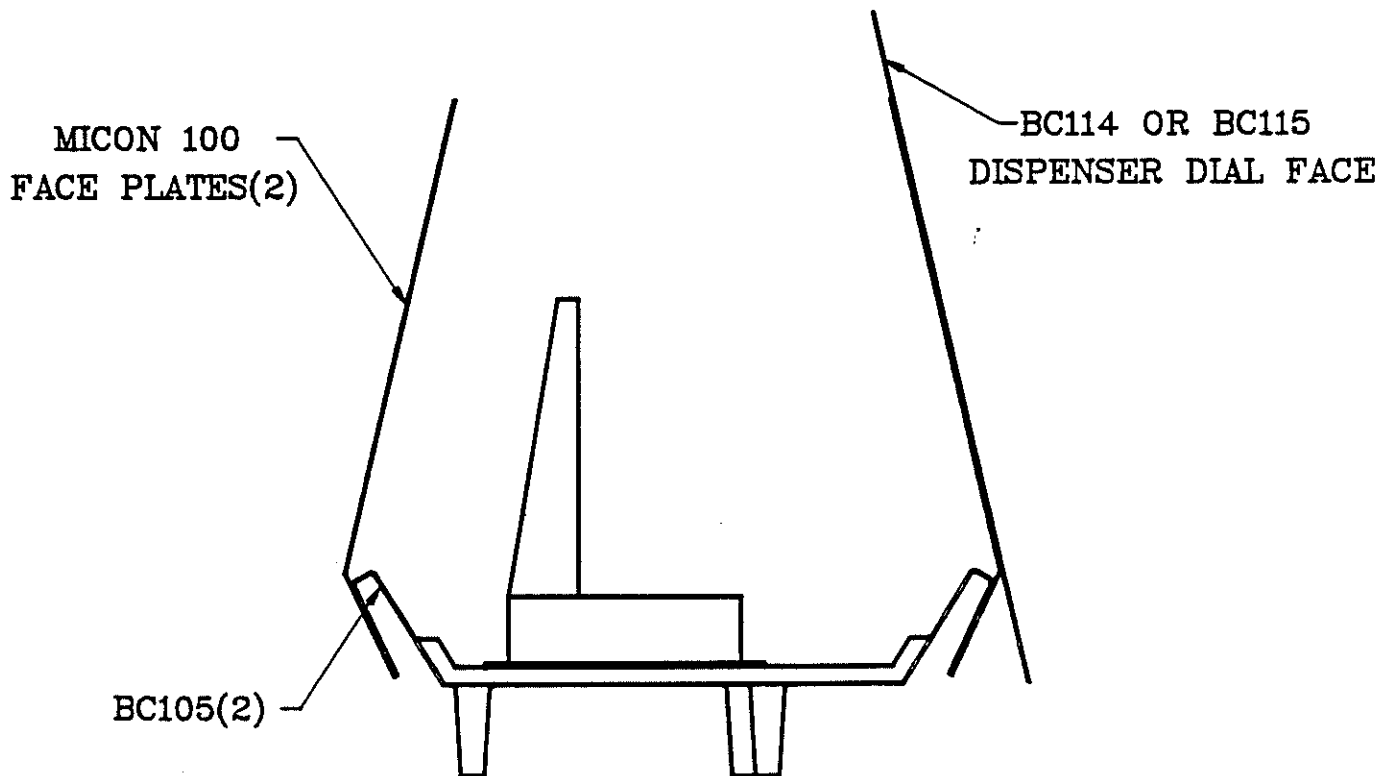

FIGURE 9.2
- 3) Remove the MICON 100I faceplates and install the display standoff brackets (BC105) between the MICON 100I faceplates and the register base as shown in Figure 9.2.